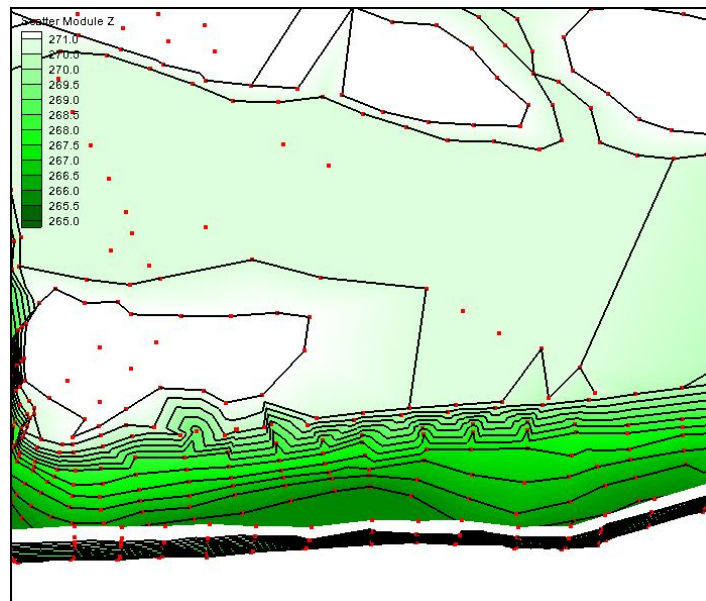

Figure 8 Angle (oblique) view of contours and points.
5. In the *View* tab, click *View angle* then set the *Bearing* to 30, the *Dip* to 50, the *Looking at point* to (648700.0, 3984000.0, 2675.0), and the *Width* to 800. Click OK to exit. The resulting view should be similar to that shown in Figure 8.